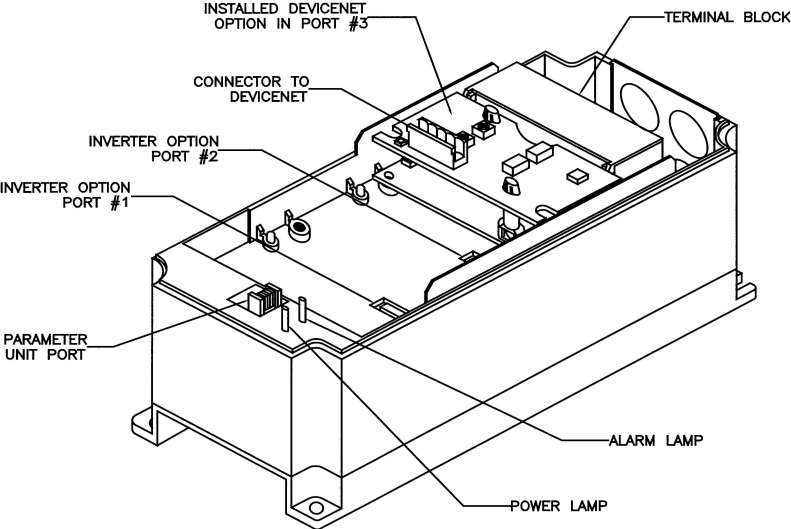

Figure 2-2: FR-A5ND Option Unit Installed in inverter
- (3) Secure the option unit to the inverter with the two mounting screws.
(4) Option unit is now mechanically installed as shown in figure 2-2.